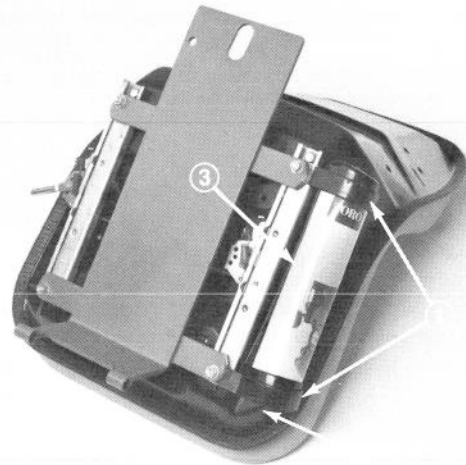

Figure 7
5. Slide threaded stud at front and rear of seat slide channel through holes in seat support. Secure channels in place with lockwashers and nuts (Fig. 7).